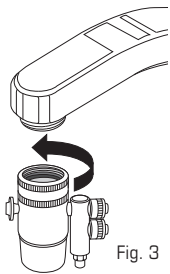

Fig. 3
- a) **Position** the Diverter onto the faucet and **hand tighten** the textured collar counterclockwise until secure (Fig. 3).